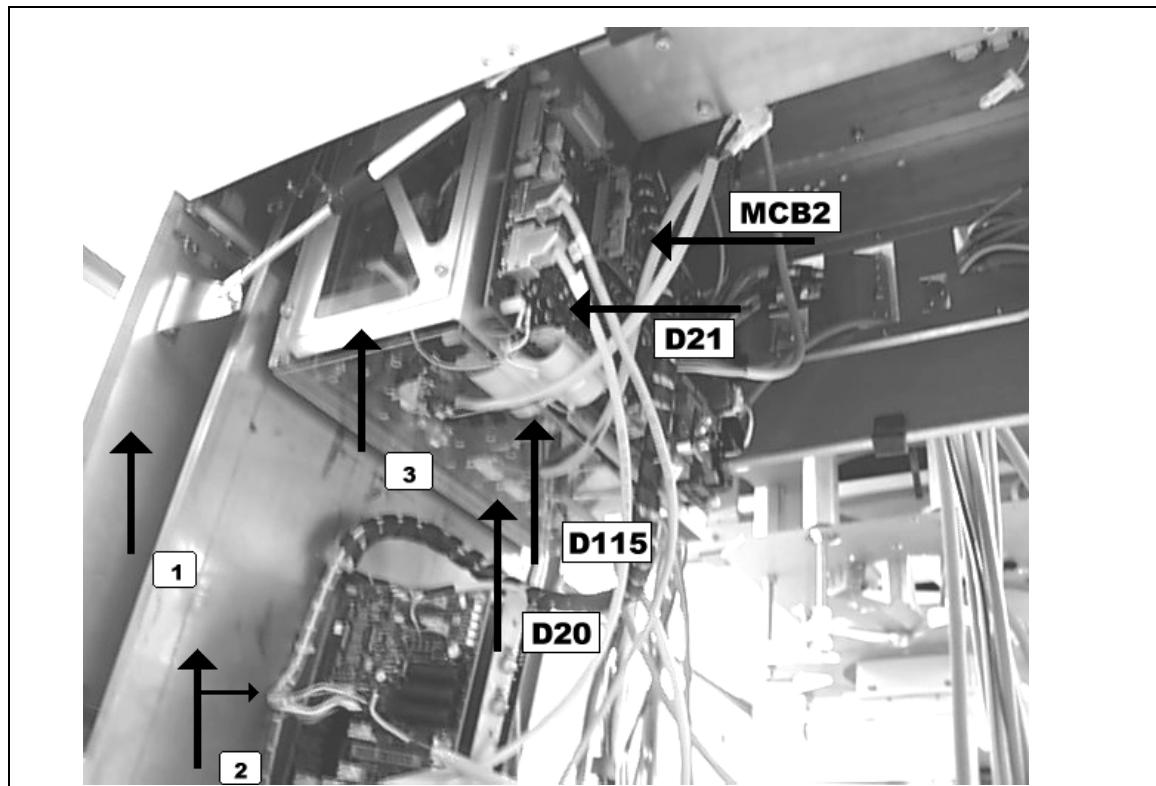

Fig. 11
- Be aware of the weight added by the components attached to the rear side when opening the latch and the service cover (see 2/Fig. 11).
- You can now lower the generator unit. Use an extension to loosen the two screws on the upper sides (see 3/Fig. 11).